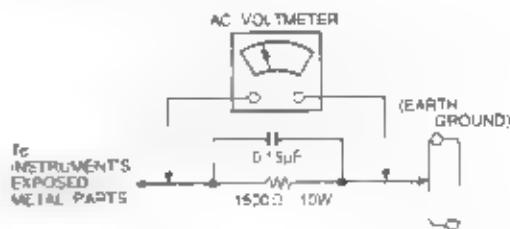

Fig.1
- 5-2 Connect a 1500 ohm, 10 watt resistor, paralleled by a 0.15μF capacitor between each exposed metallic part and a good earth ground (as shown in Fig. 1).